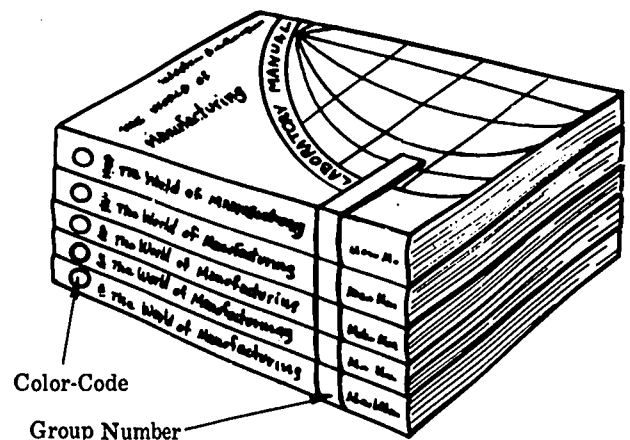

Fig. 3-1. Code for Laboratory Manuals
7. Explain to the foremen how to number the Laboratory Manuals and how to place the 1/8" wide class color-code stripe under the group number. See Fig. 3-1. Be sure